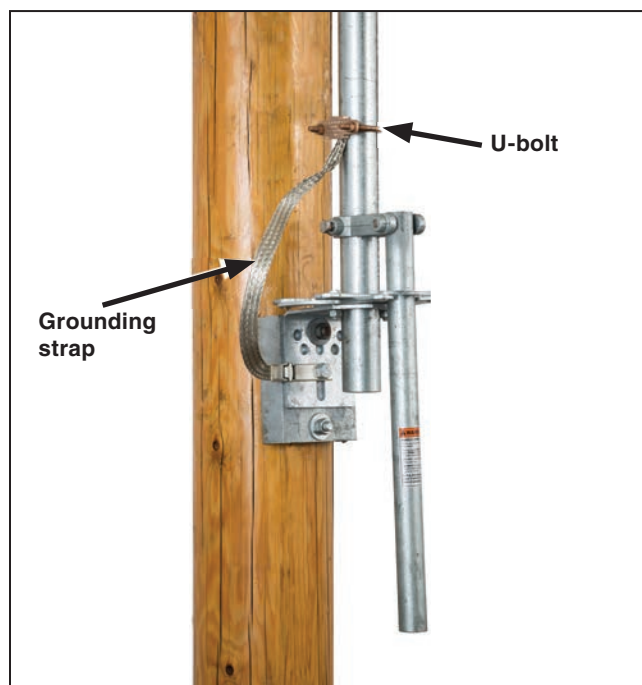

Figure 34. Attach the grounding strap.
**STEP 32.** Fasten the free end of the grounding strap to the lowest pipe section a few inches above the operating handle assembly (or key interlock) with the U-bolt connector provided for this purpose. See Figure 34. Afterward, connect the lower end of the strap to a suitable earth ground using the grounding connector provided at that end of the strap. The grounding recommendations in this document may differ from the standard operating and safety procedures of certain electric utility companies. Where a discrepancy exists, the operating procedures of the electric utility apply.